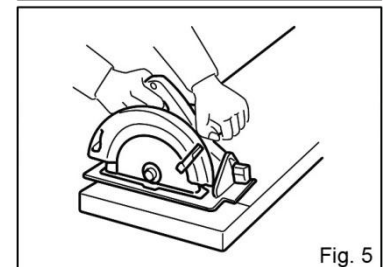

Fig. 5
- As examples, **Fig. 5** illustrates the RIGHT way to cut off the end of a board, and **Fig. 6** the WRONG way.